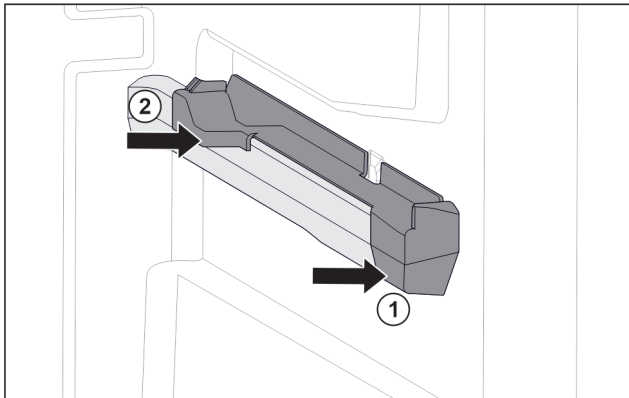

Fig. 86 Attachment on the right moulded rib
- ▶ Position attachment on moulded rib at the front. Fig. 86 (1)
- ▶ Press on attachment at the back. Fig. 86 (2)